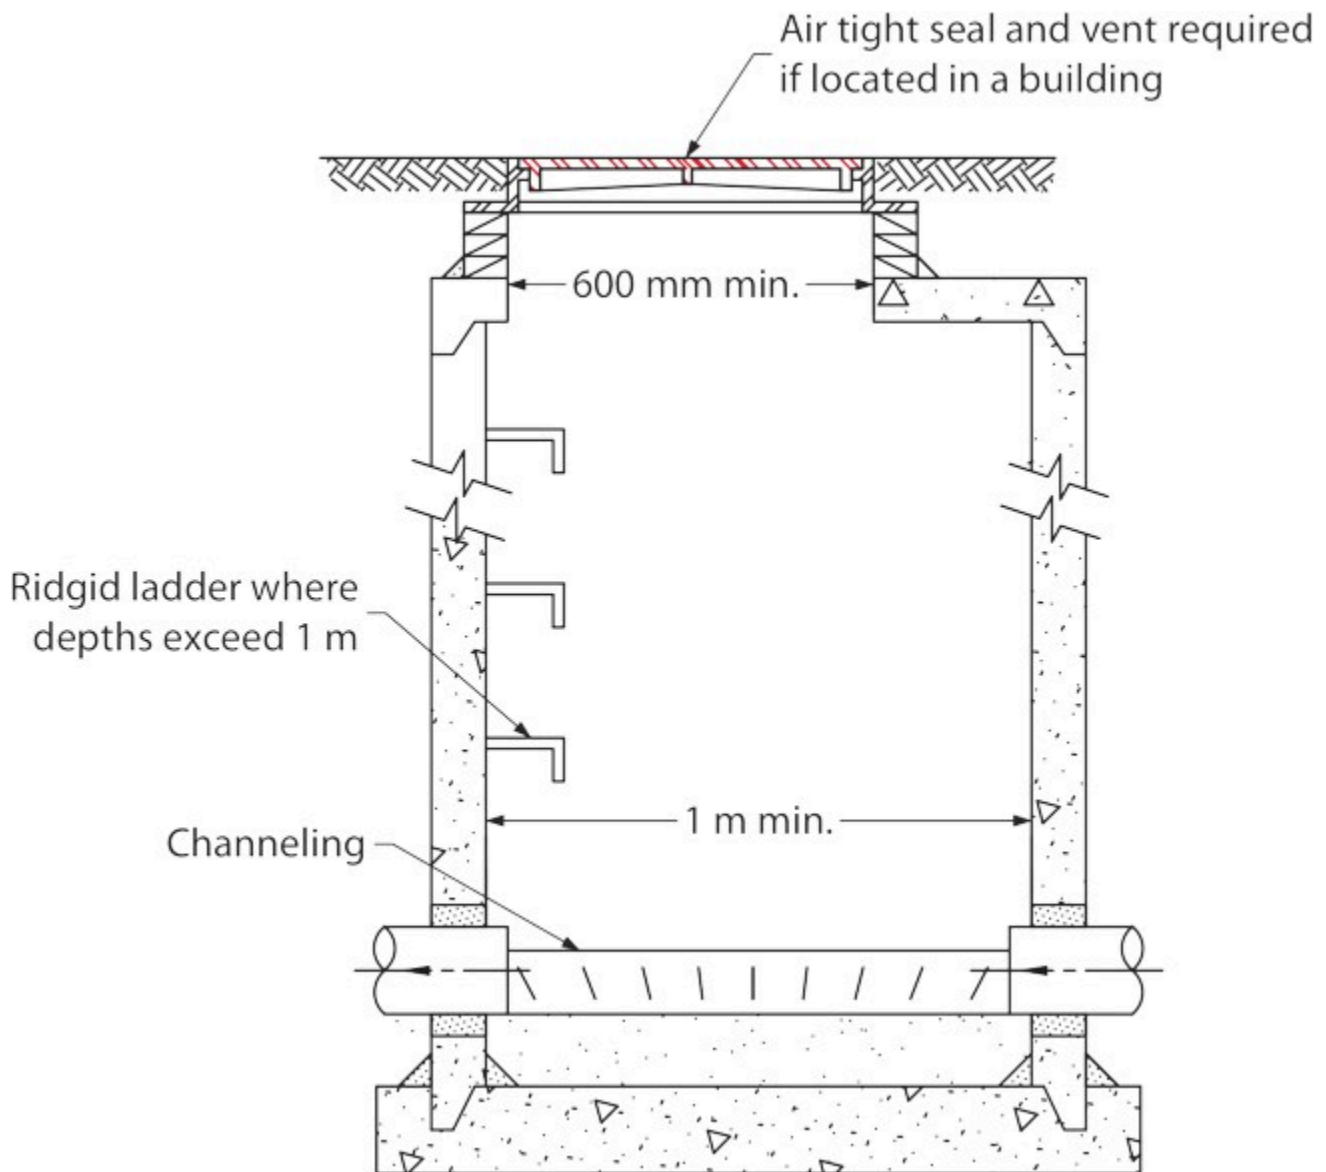

Figure 6 Sanitary manhole
- Figure 6 Sanitary manhole by ITA is licensed under a CC BY-NC-SA licence (<https://creativecommons.org/licenses/by-nc-sa/4.0/>).